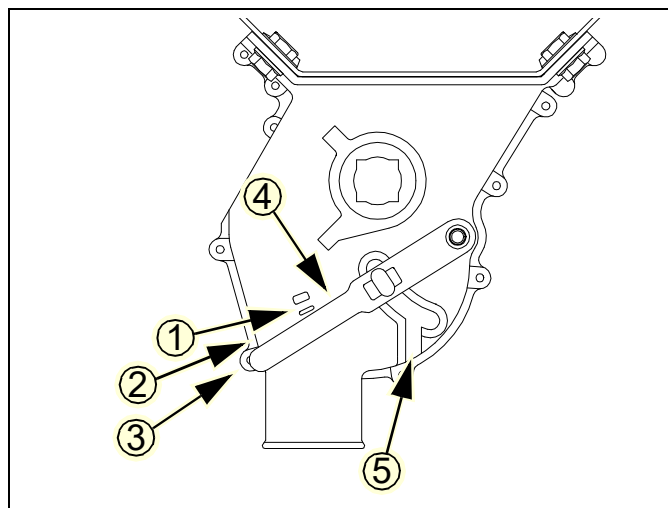

Figure 5
Refer to Figure 5, which depicts the seed cup door handle in position ③.